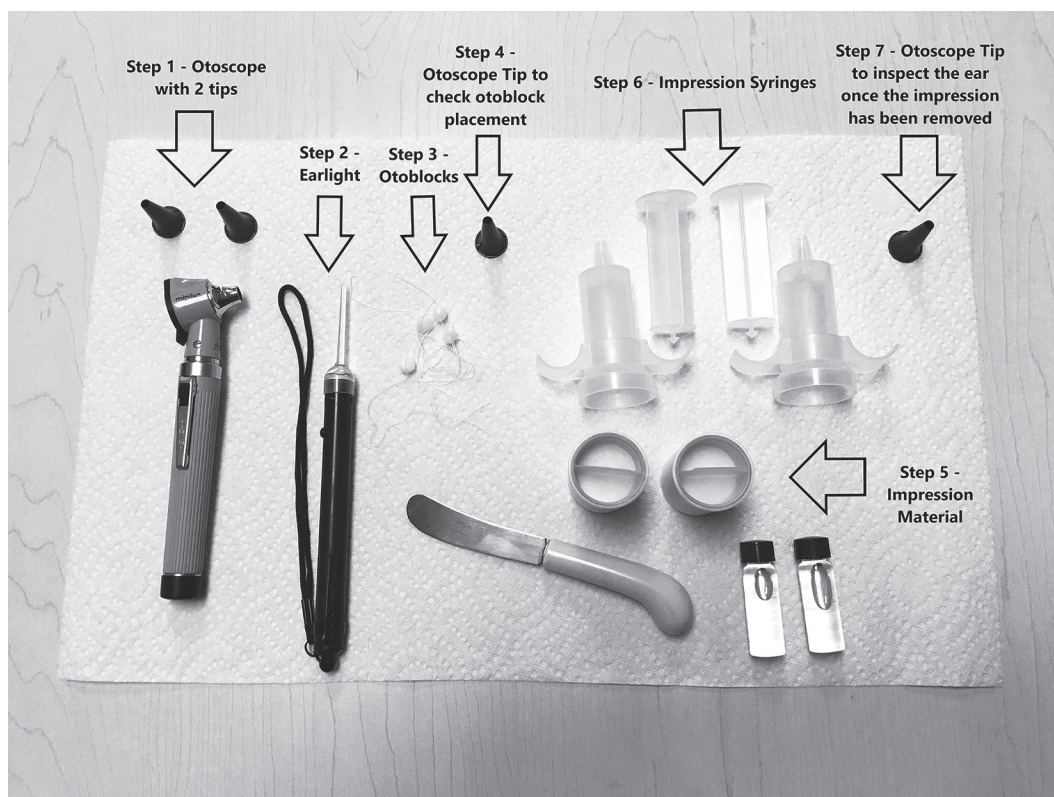

Figure M2-1. The order of supplies used to take an ear impression. Place everything in the order in which you will use it.
4. When removing your equipment from your bag, sanitize everything before laying it out on the towel. Set up the equipment in the order in which you will be using it to ensure that you do not skip any steps. The order should be as follows (Figure M2-1):